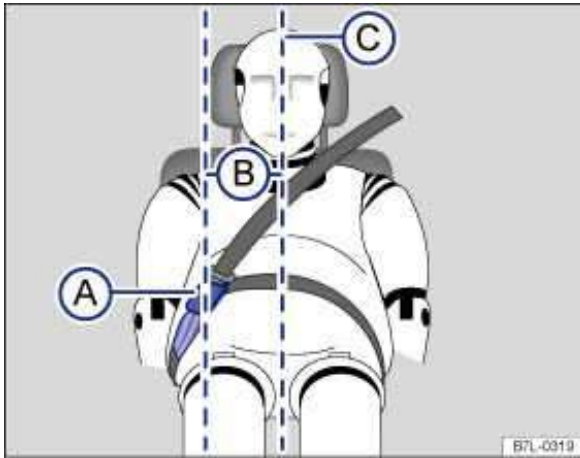

Fig. 61 Positioning of the safety belt extender.
Key to fig. 61:
- **Never use a safety belt extender if the distance (B) between the front edge of the safety belt extender buckle (A) and the centerline of the person using the safety belt extender ⇒ fig. 61 \(C\) is less than 6 inches (15 cm).**